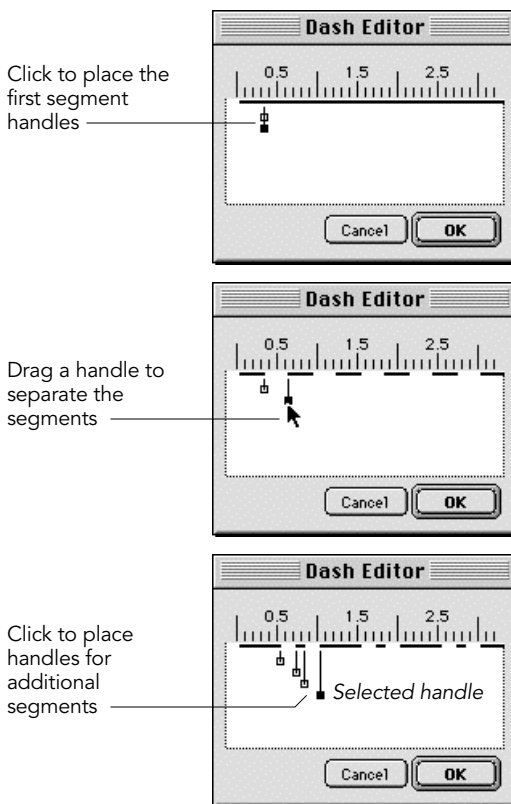

Fig. 198 Using the Dash Editor
2. Double-click a Pen Style you created that you want to edit. The Dash Editor dialog box appears (*figure 198*).